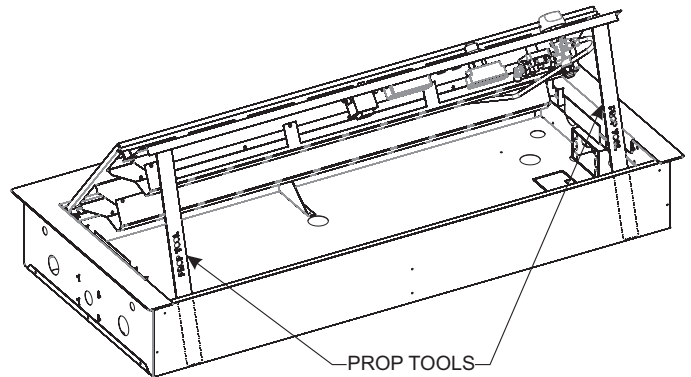

Figure 26
- f. Lift front of burner assembly and tilt upwards and toward the back of the firepit. Retrieve the two prop tools and place one each side against the front corners of the cabinet bottom and under the front corners of the control panel. **See Figure 26.**